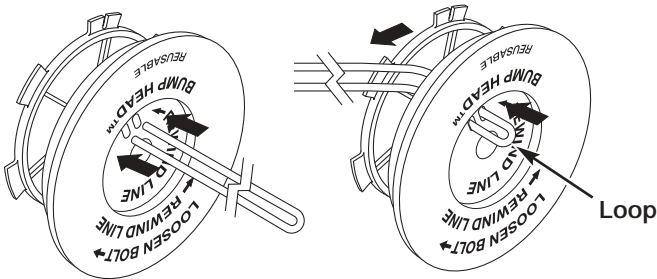

Fig. 31
- Take approximately 16 feet (5 m) of new trimming line, loop it into two equal lengths. Insert each end of the line through one of the two holes in the inner reel (Fig. 31). Pull the line through the inner reel so that the loop is as small as possible.